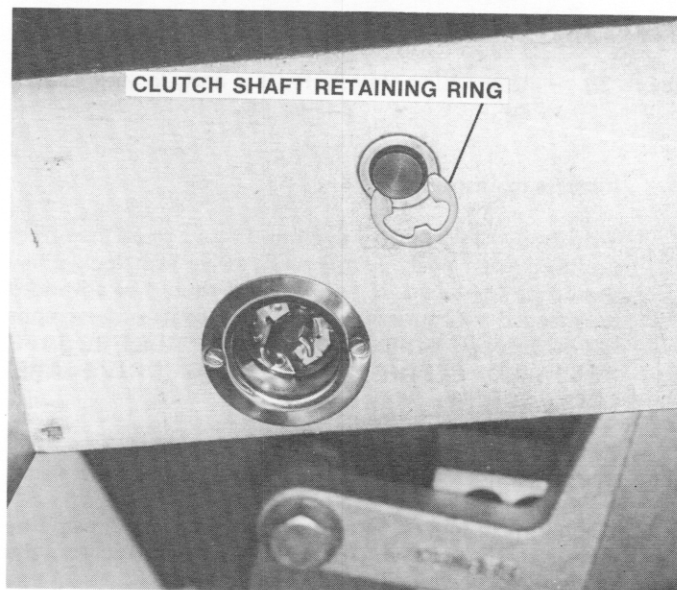

Figure 24 — Magazine Clutch Shaft Retaining Ring
- H. The magazine indexing clutch is removed by disengaging clutch shaft retaining ring (see Figure 24) located beneath magazine gearbox.